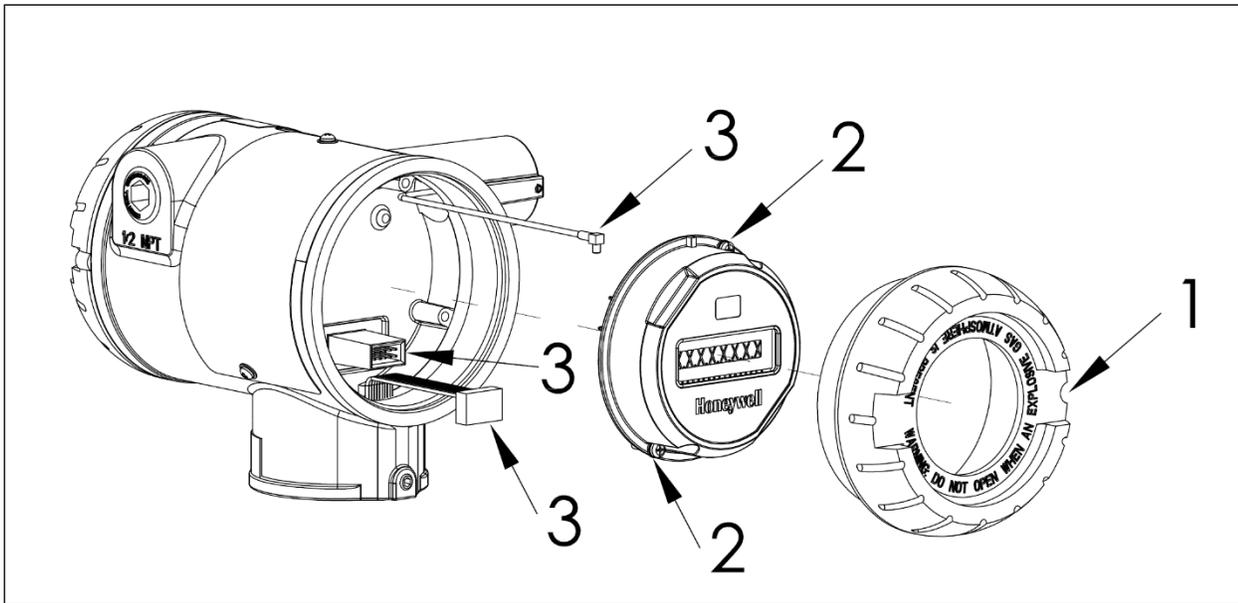

Figure 8-1: Electronics module removal and replacement
2	Loosen the M3 locking set screw on the display end-cap. See item 1 in Figure 8-1 . Unscrew and remove the end cap.
3	Loosen the two screws on the electronics module. See items 2 in Figure 8-1
4	Disconnect each connector on the electronics module. See items 3 in Figure 8-1